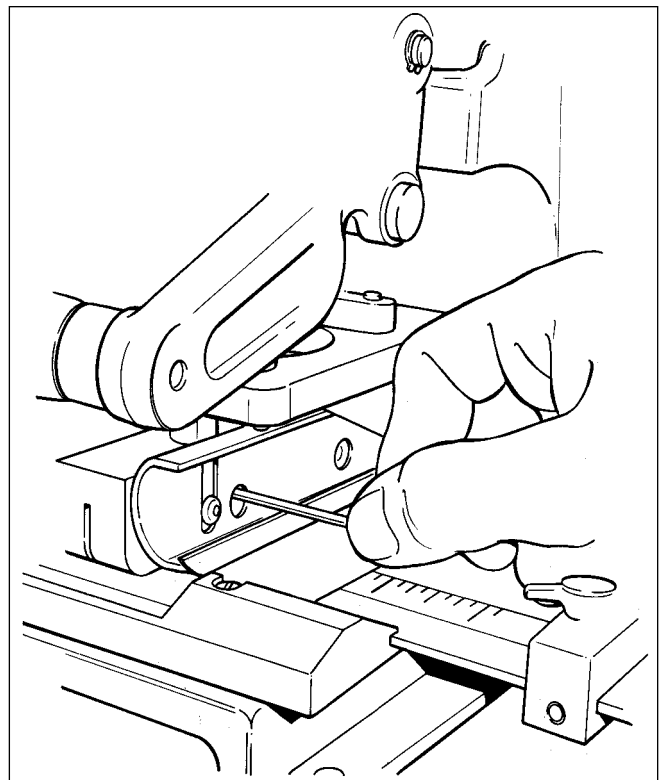

Fig. 4
2. With a 3/32" allen wrench, loosen the two set screws (figure 4).